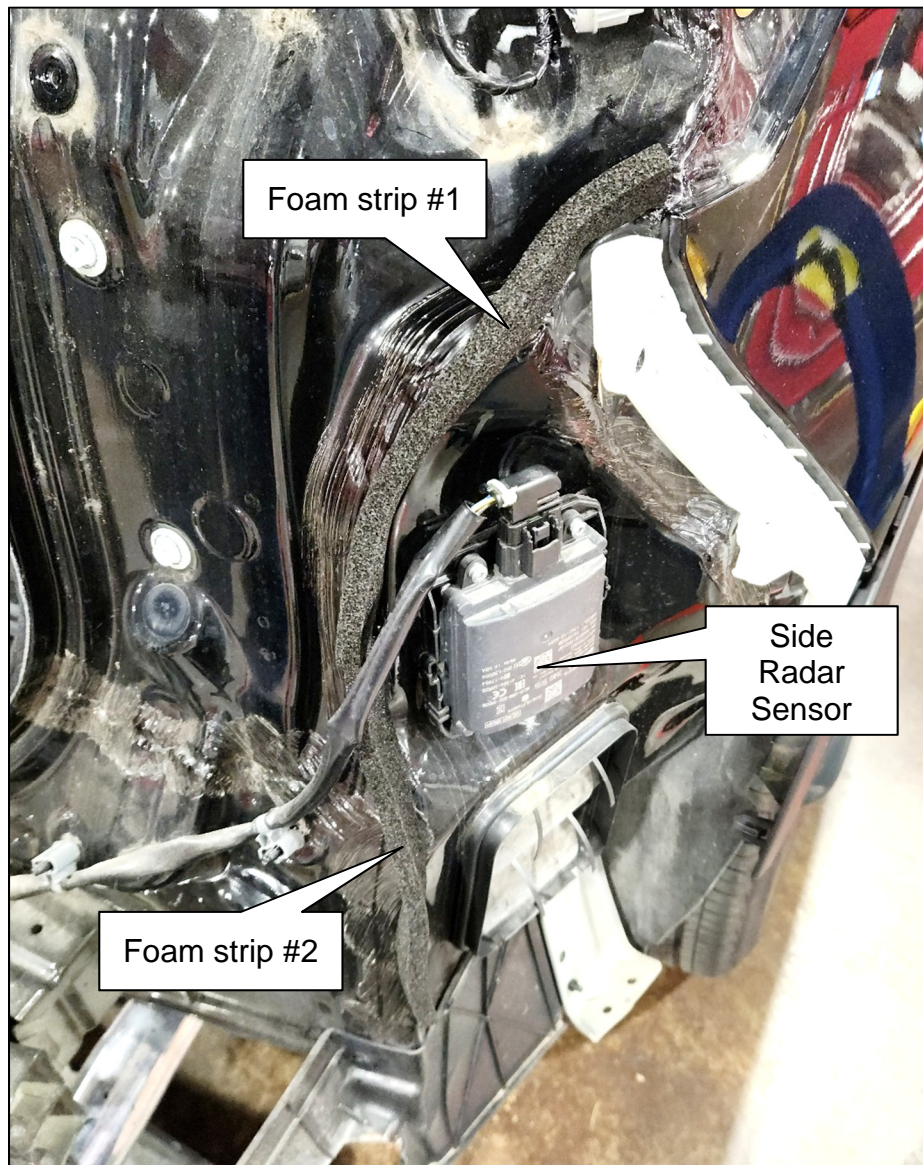

Figure 3
- Using two (2) foam strips, place the foam strips in the locations shown in Figure 3.